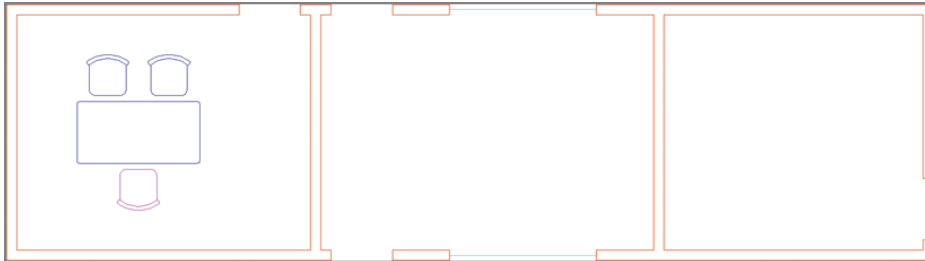

FIGURE 7.18 Turning off the Door layer hides the doors but not the chairs when the chair block definition geometry is on layer 0.
14. Open the Layer drop-down menu in the Layers panel, and toggle off the Door layer. The doors disappear but the chairs remain because the chair references have inherited the Furniture layer (see Figure 7.18).